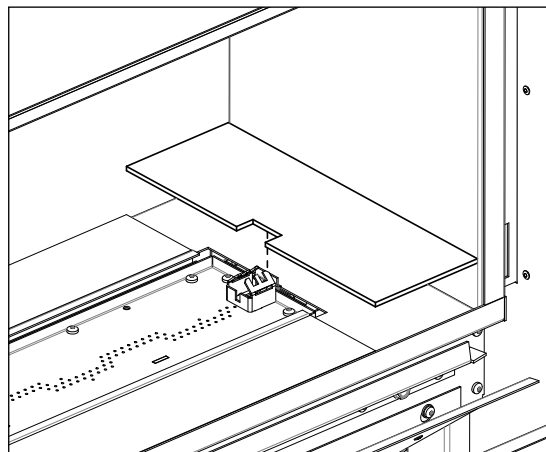

Figure 73: Bezel Placement Around Pilot
3. Ensure that the short, notched bezel is placed around the pilot assembly as shown in Figure 73.